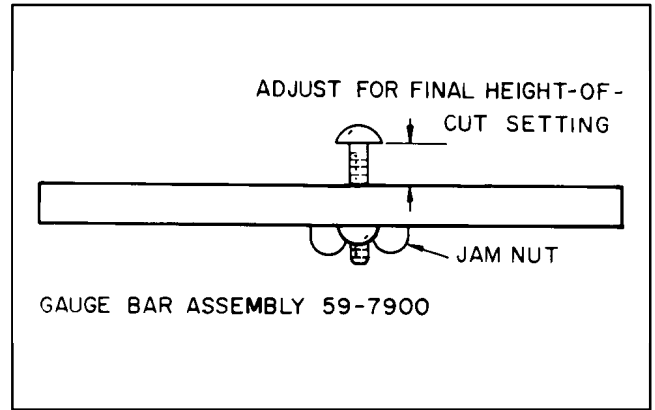
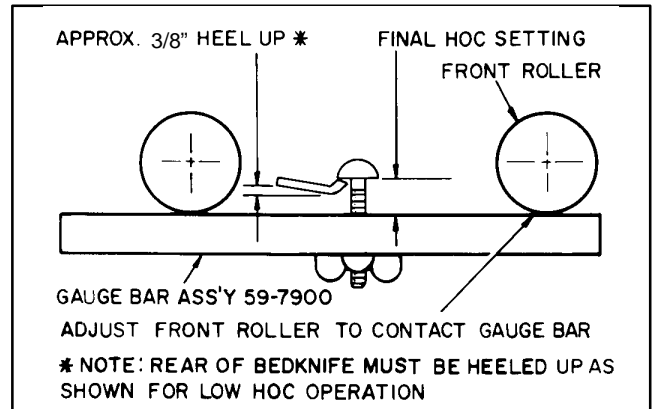

Figure 9
Figure 10
H. Loosen the gauge bar jam nut and adjust the screw to set dimension between underside of screw head and gauge bar for desired height-of-cut (Fig. 9). Tighten the jam nut to secure the adjustment. Hook screw head over cutting edge of bedknife and position bar against bottom of front roller (Fig. 10).
I. Loosen front roller nuts and adjust both ends of the front roller until it contacts gauge bar at both ends. With the gauge bar held firmly against the bottom of the rollers adjust the front roller so the screw head just slips over the lip of the bedknife (Fig. 10). Tighten front roller nuts.